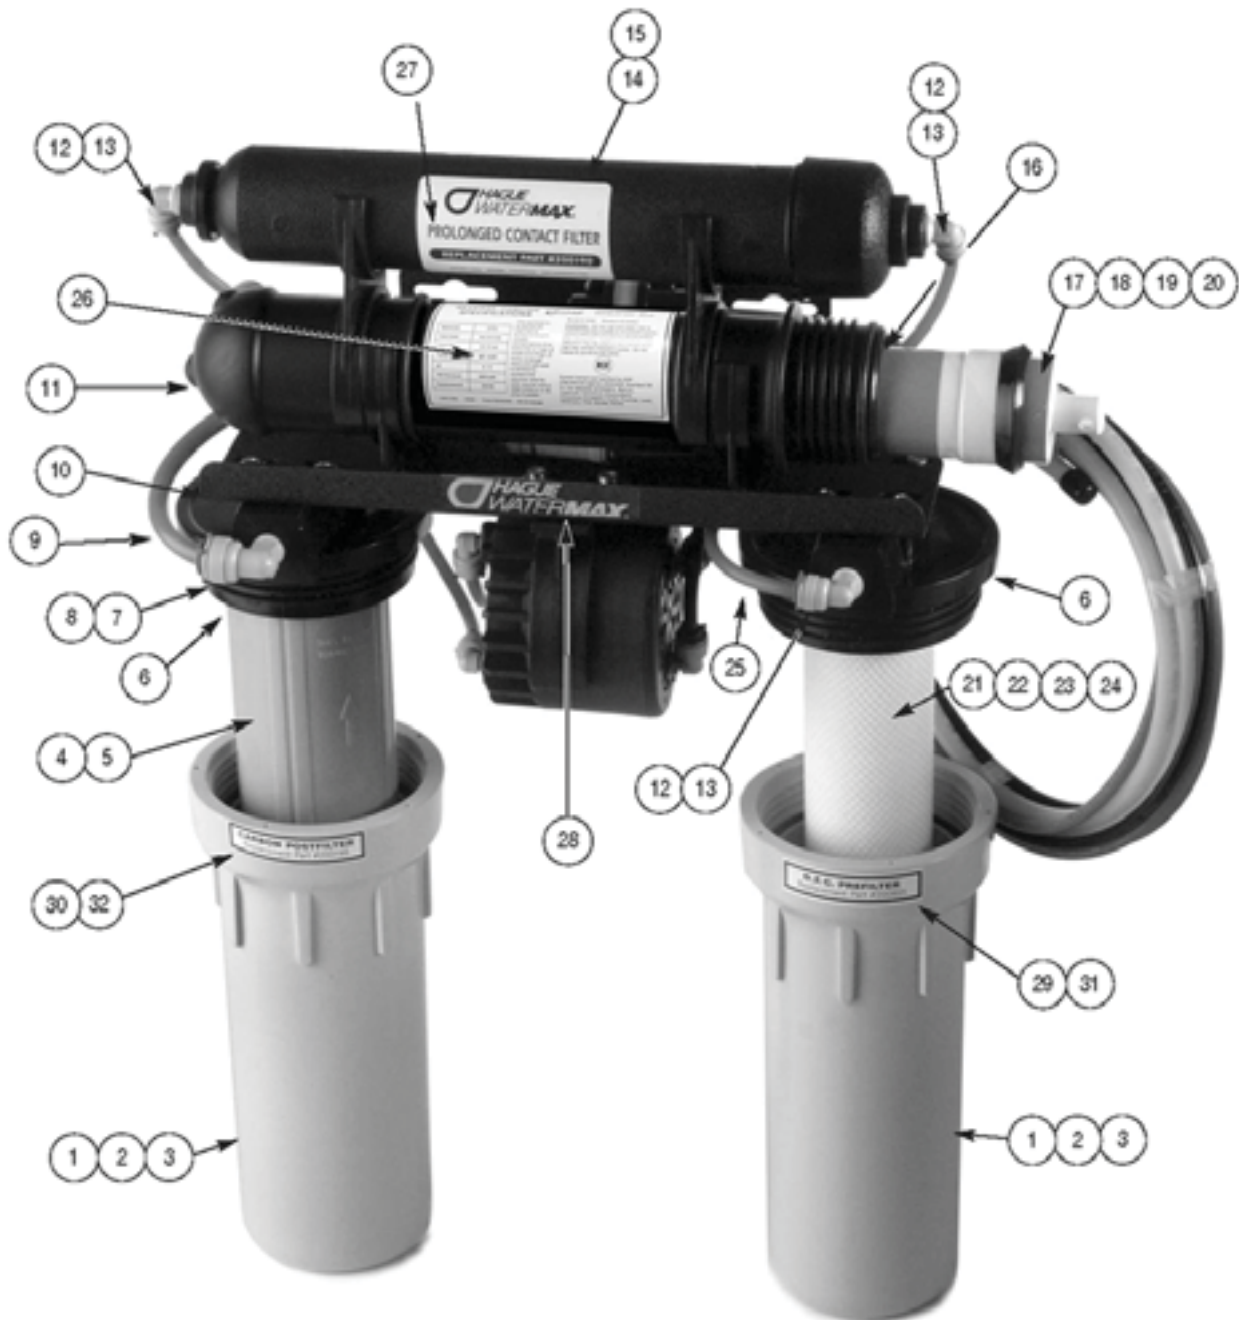

Figure 16: RO Assembly (Front View)
8. Insert the new membrane, making sure that the brine seal (See Figure 16) and the product water O-Rings are seated. Lubricate the brine seal and O-Rings with glycerin.